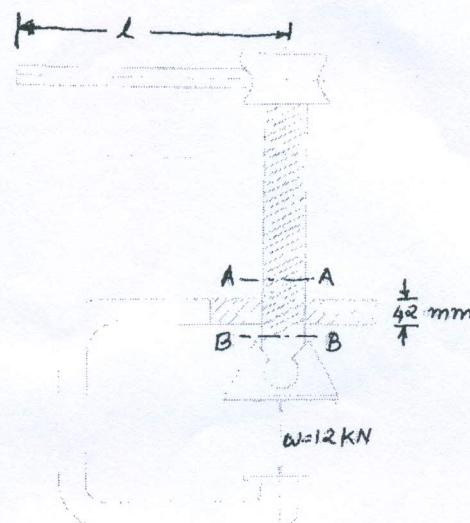

Fig.2
- Q.5** Design a square thread screw for a C-clamp (figure 2) for 12 kN capacity from the [10] following data :